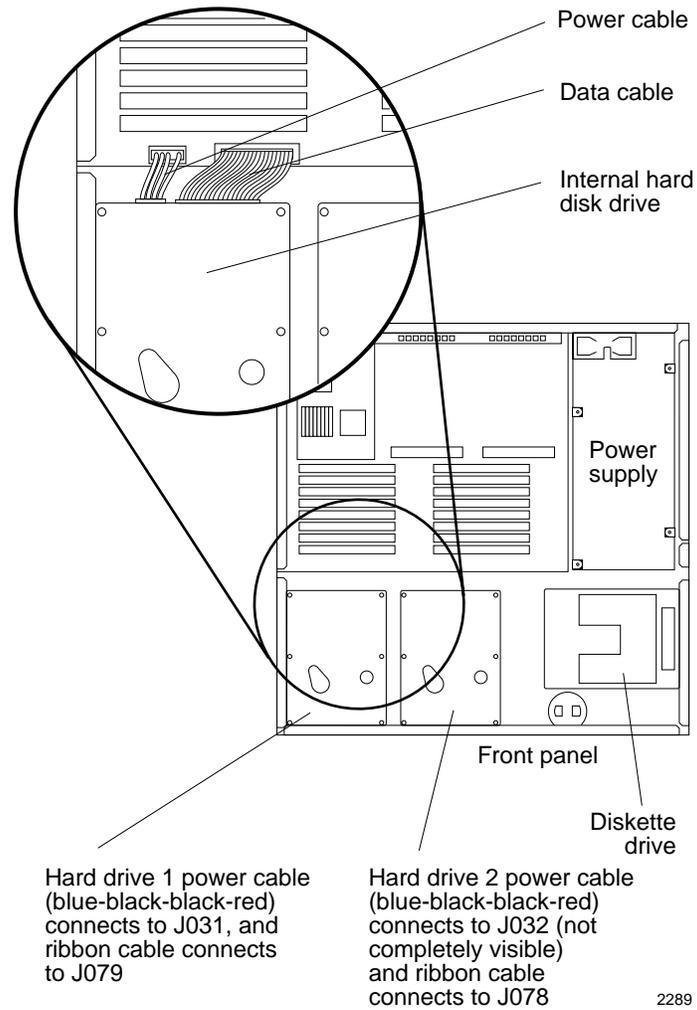

Figure 4-11 Connecting Power and Data Cables to the Hard Disk Drive
6. Remove the data cable from the hard disk drive. Next, remove the chassis-mounting screw from the mounting bracket at the rear of the drive with a screwdriver (see Figure 4-11).
7. Grasp the hard disk drive (see Figure 4-11). Pull it up slightly to release the tabs on the bottom of the mounting bracket.
1. Remove the mounting bracket from the drive so that you can reach the entire area of the drive controller board and access the jumpers. Remove four screws (two on either side) from the metal bracket and slide the bracket off the drive (see Figure 4-11 for the location of the screws). You now have access to the drive controller board. Go on to the next step of you are replacing drive 2. Go to step 3 if you are replacing drive 1.
- 4. Lower the drive into the chassis and make sure the tabs seat into the chassis slots (see Figure 4-11). The drive unit's data and power sockets should be facing the rear of the chassis. Slide the hard disk drive and mounting bracket toward the front of the chassis.**